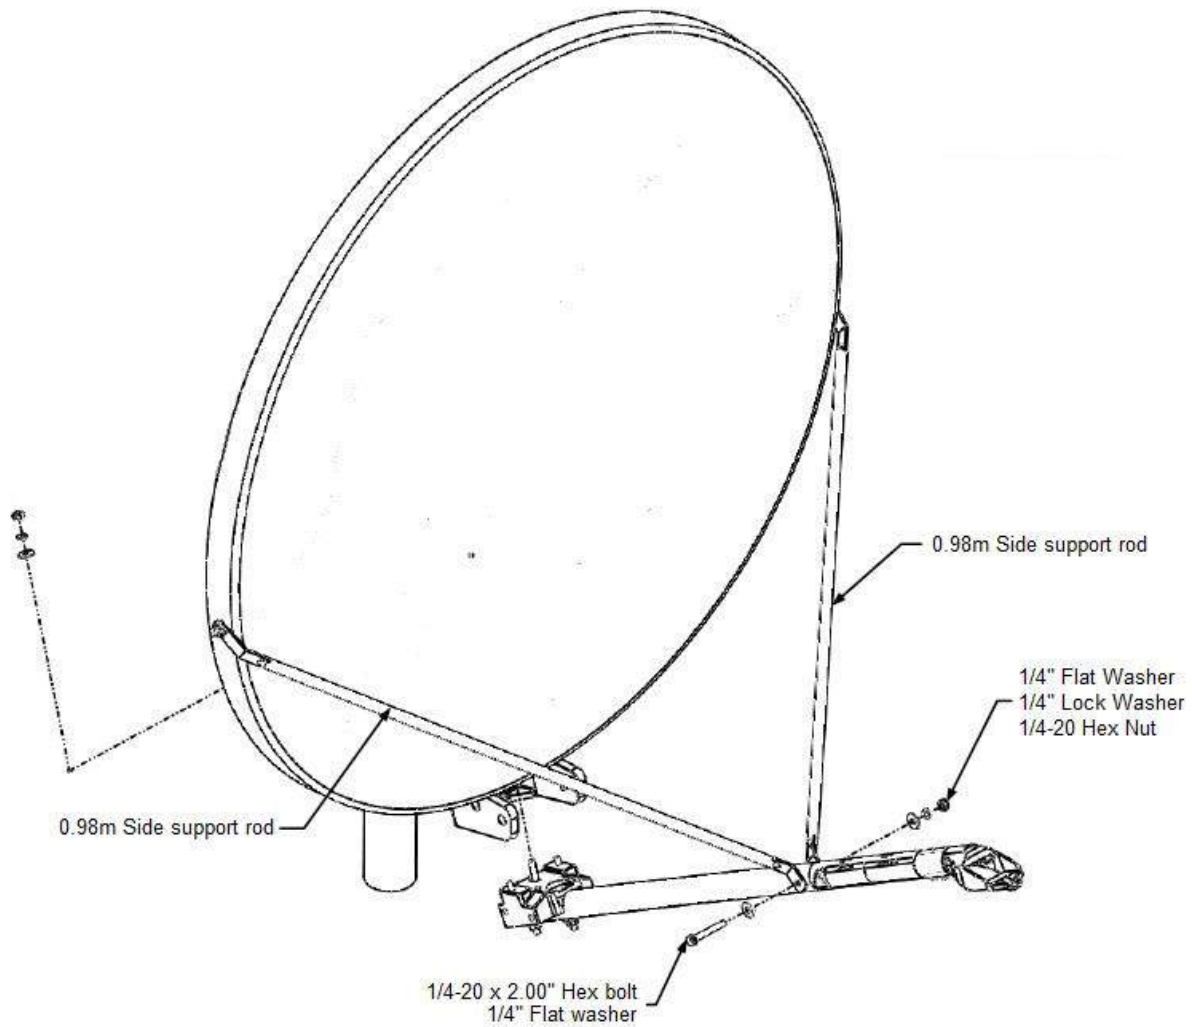

Figure 14: Attaching the support arm to the dish
2. Loosely attach the feed support arm to the side rods using a single  $\frac{1}{4}$  x 2 inch hex bolt and two  $\frac{1}{4}$  inch flat washers, a  $\frac{1}{4}$  inch lock washer, and a  $\frac{1}{4}$ -20 hex nut. The washers must be placed on both sides of the feed support arm, as shown in Figure 14.